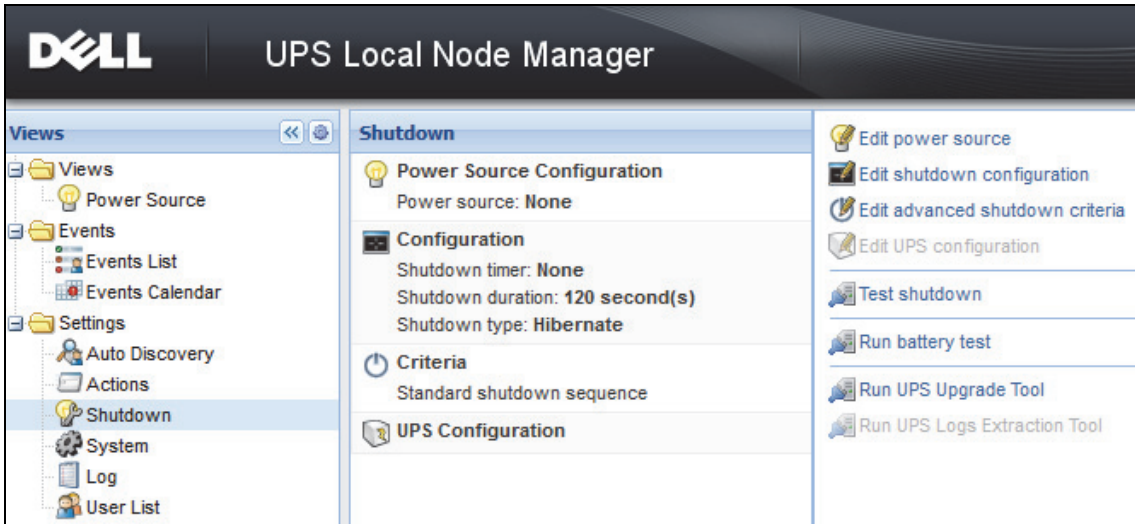

Figure 16. Run UPS Upgrade Tool in Shutdown Panel
- Run UPS Upgrade Tool if the following conditions are true (see Figure 16):